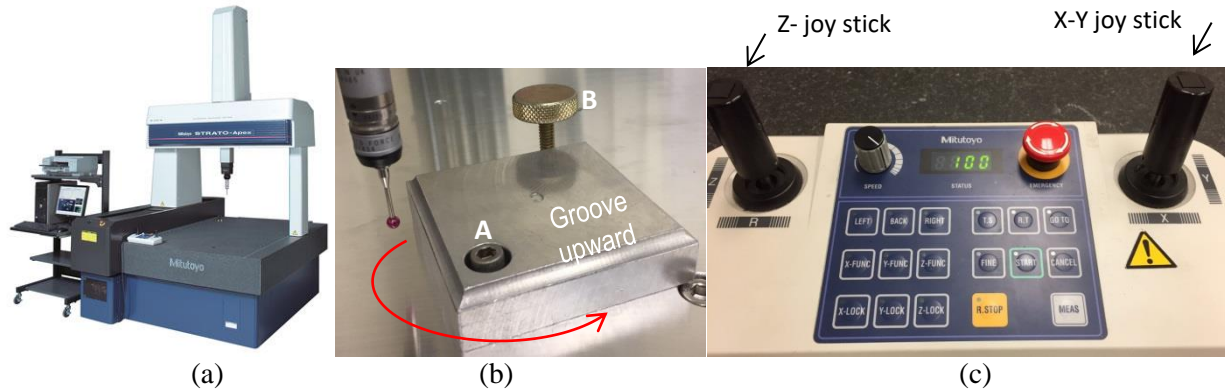

Fig. L3.5. a) Mitutoyo Strato-Apex CMM, b) setup, and c) CMM control box
- Use the joy sticks on control box (Fig. L3.5.c)
- Reposition the part as shown in Fig L3.5.b